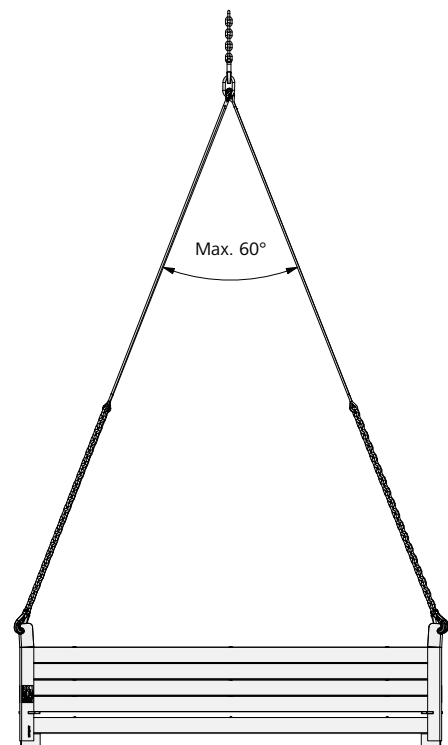

Fig. 82.4
- The opening angle of the crane sling must not exceed 60° (Fig. 82.4).